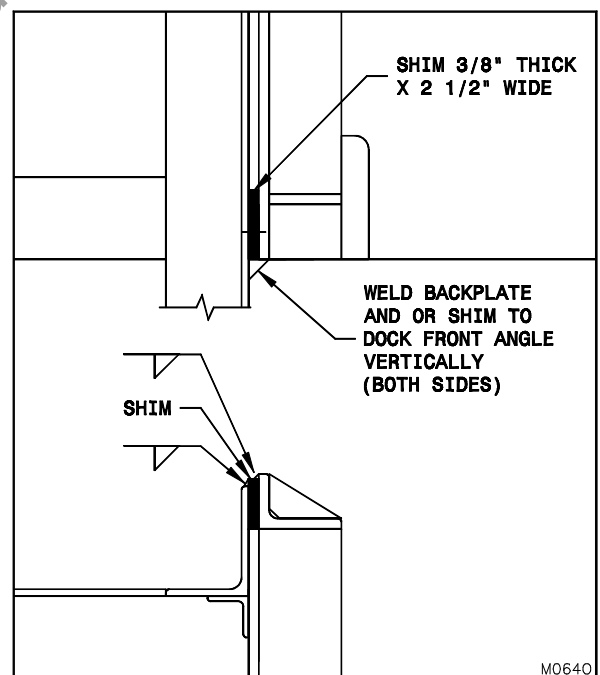

Figure 15: Back Plate is Higher Than Dock Front Angle
- l) If the back plate of the restraint is higher than the front angle of the dock leveler, shim between the top angle of the back plate and the front angle of the dock leveler and weld the shim to both as shown in "Figure 15: Back Plate is Higher Than Dock Front Angle" on page 19.